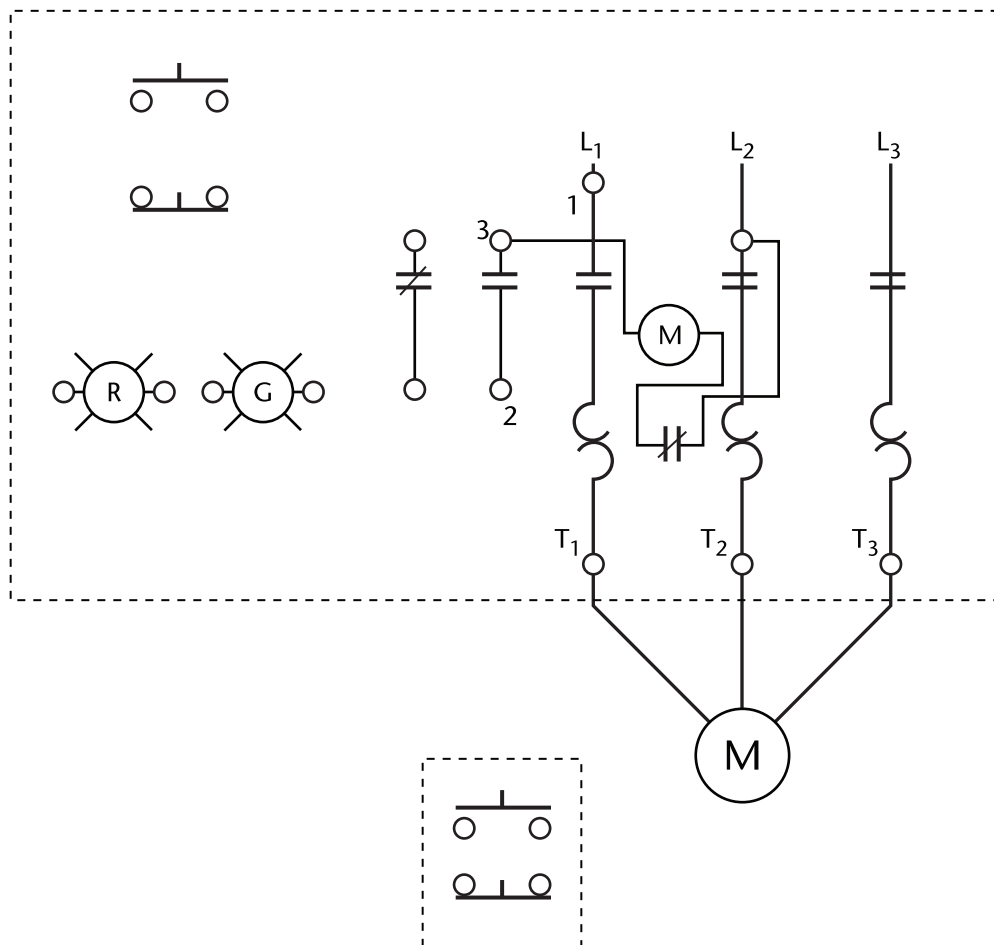

Figure 2—Base for wiring diagram in Question 8
8. Using the schematic diagram from Question 7 as a guide, complete the wiring diagram in Figure 2. Use the minimum number of conductors between devices.